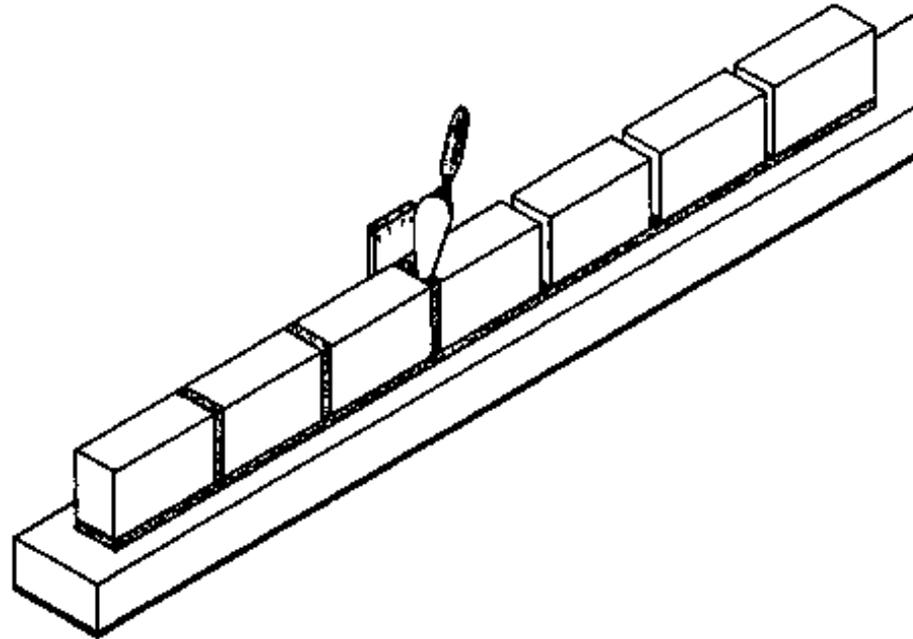

**Fig. 1 LAYING THE FIRST COURSE**
**Because the first two blocks are in line and at the same height, we can complete the course without using the spirit level, only using the straight edge. Starting from either block (but still working on only one side of the wall) more blocks are inserted between the first two (Fig. 1).**